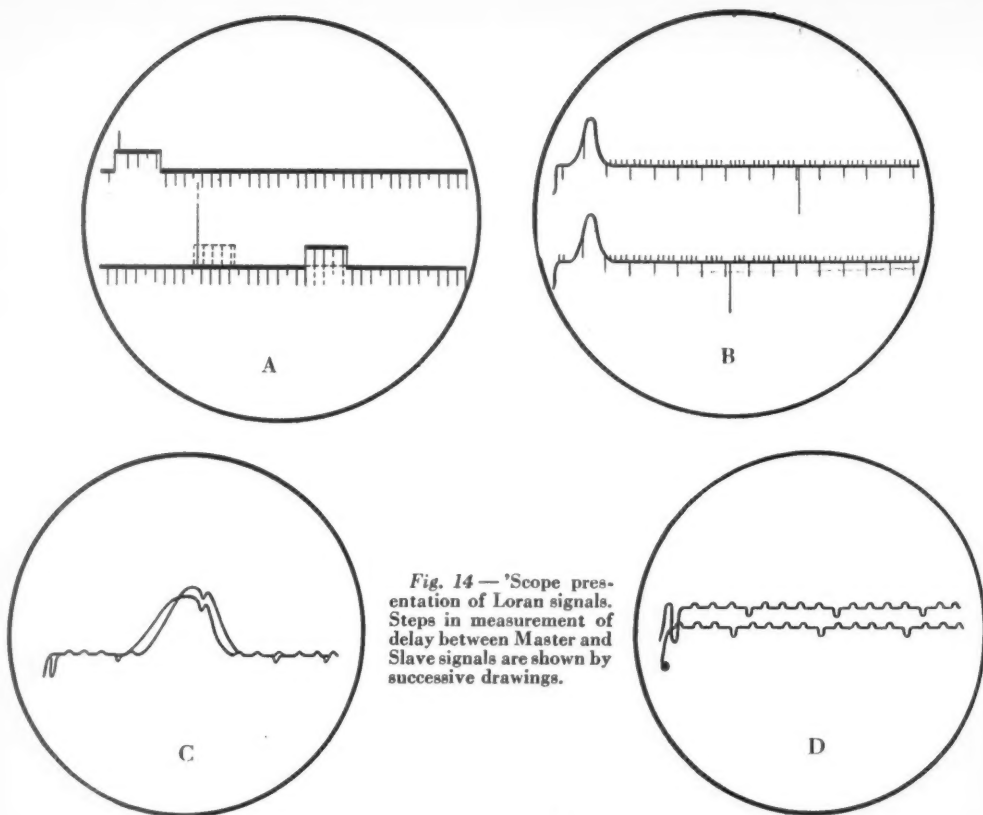

Fig. 14 — 'Scope presentation of Loran signals. Steps in measurement of delay between Master and Slave signals are shown by successive drawings.
Fig. 14 illustrates a sequence of 'scope presentations which would enable a navigator to ascertain a line of position. The first (a) shows a single pair of signals. The pair has first been selected by means of a numbered rate switch which in one of its positions makes them stand still. Any slight drift is stopped by correcting the indicator crystal oscillator. The Master signal has been set upon the upper pedestal in accordance with a simple operating rule. The Slave signal sits where
it will on the lower trace. Their amplitudes have been adjusted by the receiver gain control to a convenient value for the weaker signal and a discriminating amplitude-balance control has attenuated the stronger signal until it matches the weaker. The manual delay controls move the lower pedestal underneath the Slave signal, as indicated by the dotted lines in Fig. 14(A) so
that the pip stands in the same relation to the pedestal as the Master signal does to its pedestal. This gives a first approximation of the delay between the Master and Slave signals. As the sweep speed is increased in two steps, the pips widen out into pulses. This constitutes an electronic magnification of the left side of the pedestals. Fig. 14(C) shows the traces collapsed by means of the trace
Let us switch back to the slowest sweep and determine the delay. We will use Figs. 14(A), (B), and (D) to demonstrate how the delay between arrival of Master and Slave signals may be measured to a microsecond. Ordinarily, at this point, the navigator cuts off the receiver lead to the 'scope so as to avoid distraction. Only the 500-microsecond markers are clearly visible on the traces, pointing downward, each fifth one somewhat shortened to aid in the identification. Usually the Master pedestal has been adjusted so that its left edge occurs at the second visible 500-microsecond marker. Counting markers to the right we find that we have moved the lower pedestal so that there is an approximate reading of $4000 +$ microseconds delay between the Master and Slave signals.
A medium-fast sweep is now switched on. Fig. 14(B) shows the 50-microsecond markers as the predominant ones, pointing down. The 10s are pointing up. (The 500s are displaced slightly to the right of the 50s.) Starting with a convenient 500-microsecond marker on the lower trace, we count off to the right by 50s until we reach the intersection of the first upper trace 500-microsecond marker with the lower line. In the illustration, this seems to be close to 150 microseconds. Adding this second approximation to the first we come out with a total of $4150 +$ microseconds delay between the Master and Slave signals.
The last step is to switch on the fastest sweep which makes the 10-microsecond markers apparent as bumps above the trace line, as in Fig. 14(D).